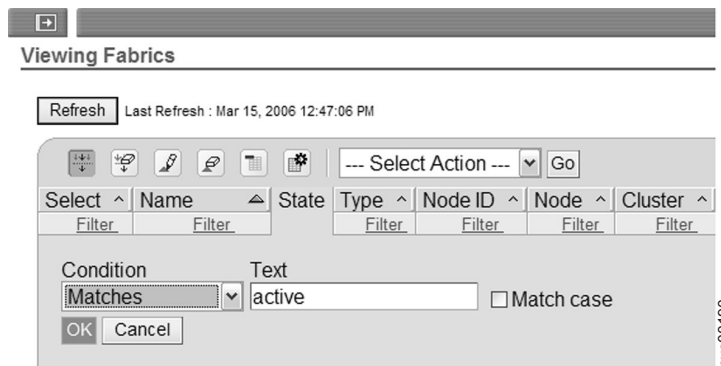

Figure 48. Displaying all active devices
- From the **Condition** menu, select **Matches**, as shown in Figure 48, and then click **OK**.